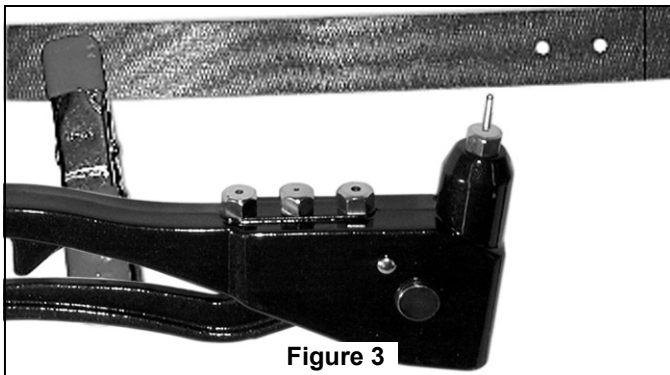

Figure 3
*It is recommended that each fan and the motor have  $\frac{3}{4}$ " plywood backing secured to a structural member for adequate support (Figure 3). The motor unit will not operate more than 2 pulley/blade assemblies.*
4. Mount retainer to junction box with screws (provided with your junction box). (Figure 3)
3. Using the rivets, rivet washers, and the rivet tool provided, install two rivets. The flat head of the rivet must be on the inside of the belt (the side touching the pulley), while the rivet washer is placed on the outside of the belt. (Figures 3, 4, & 5)